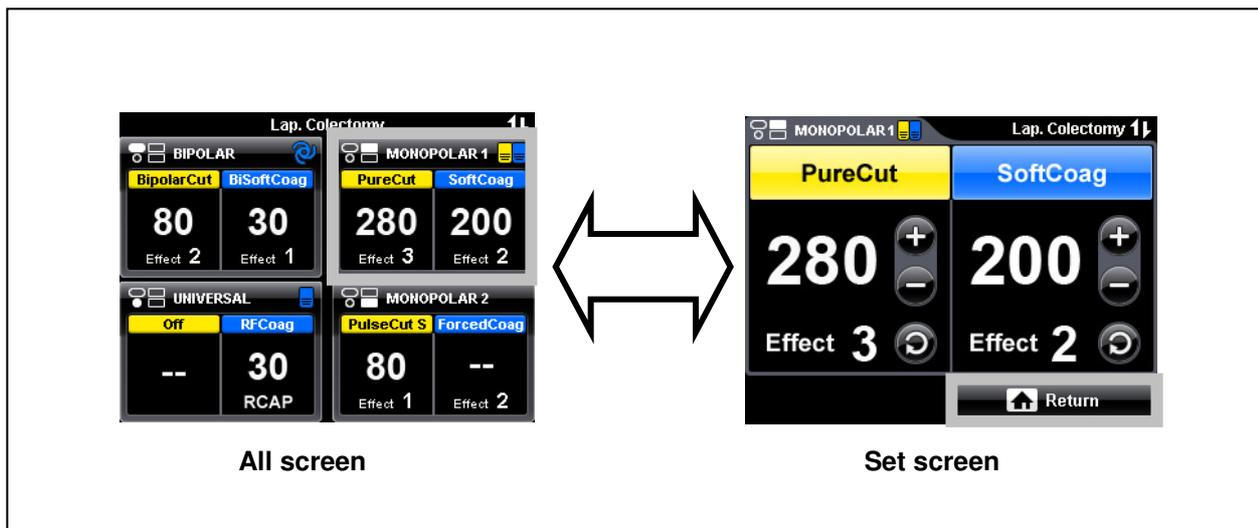

Figure 4.4
1. Press the “MONOPOLAR 1 button” on the marked area as shown in figure 4.4.
The screen changes from the “Set screen” to the “All screen” (see figure 4.4).